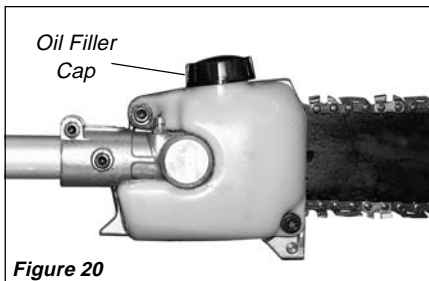

Figure 20
1. Place the pole pruner on a clean, flat surface with the oil filler cap facing up. See Figure 20. Wipe off any debris from the oil cap and from around the oil filler neck.